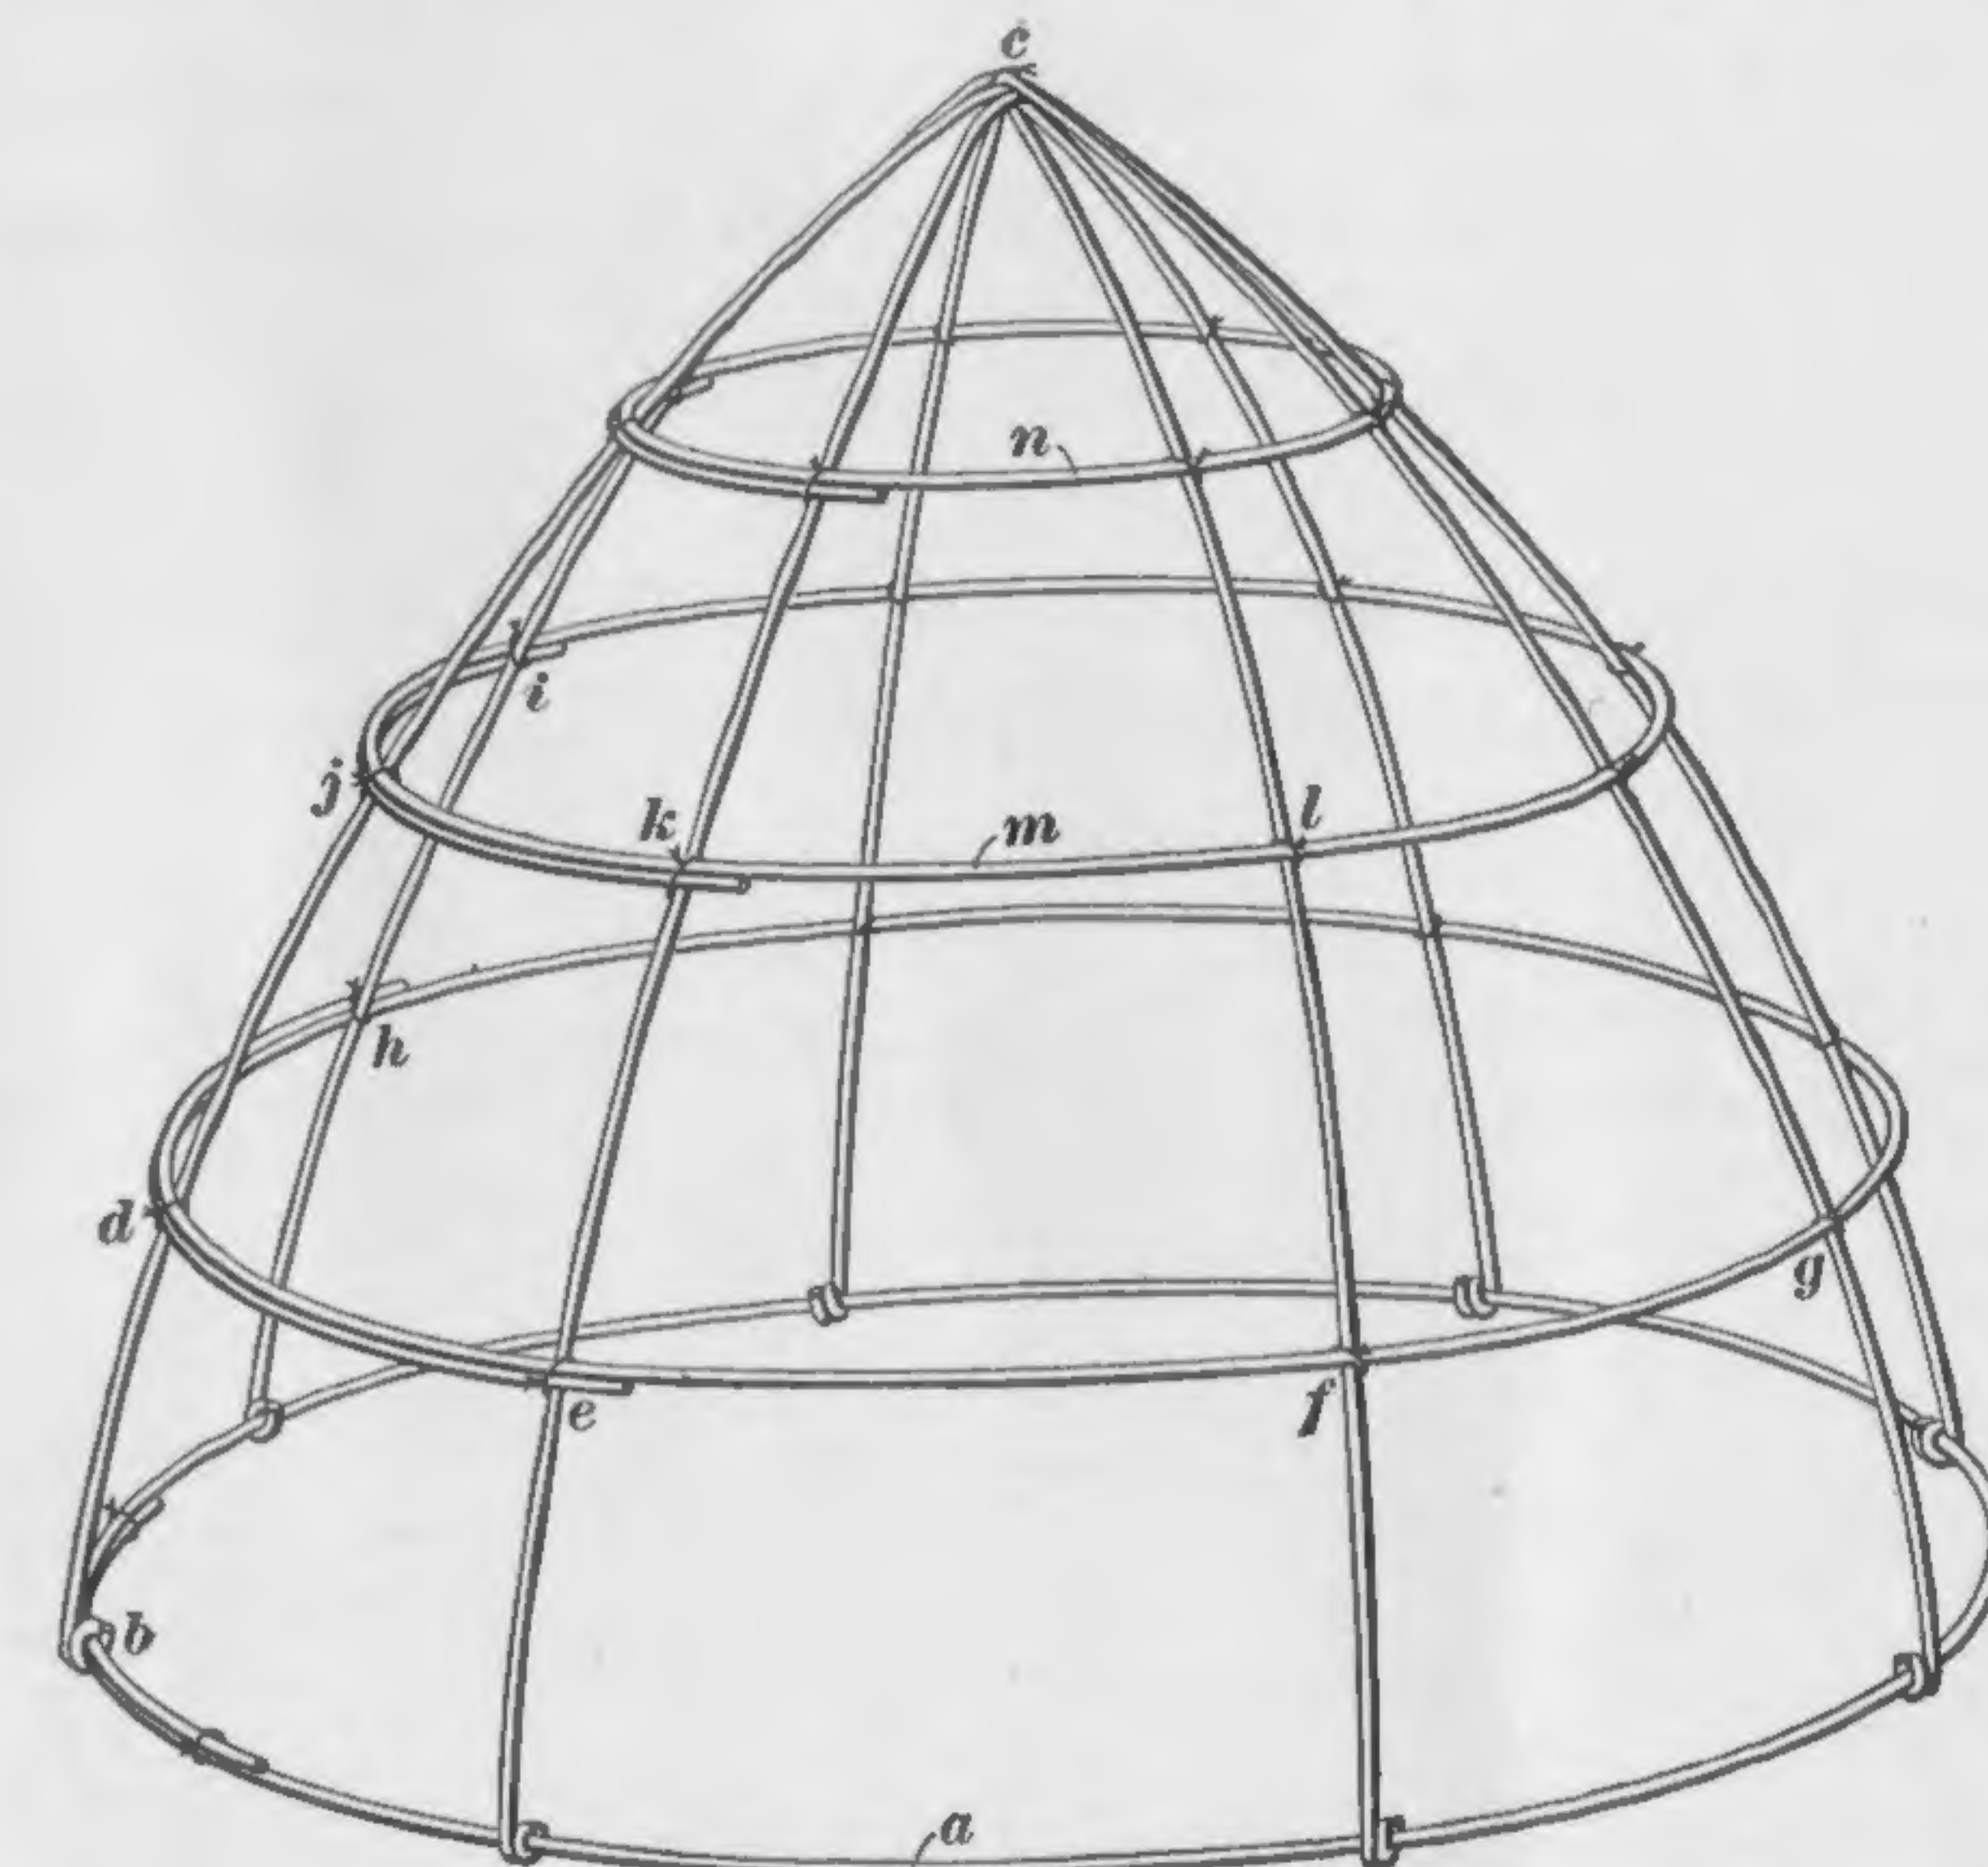

FIG. 25
41. The form of crown shown in Fig. 25 is known as the **acorn crown**, and the method of making it with a 24-in. head-size is as follows: Make the head-size wire *a* as for the preceding crowns, and mark it off into eight equal parts with a paper gauge, beginning at the middle point *b* of the overlapped ends. There are four support wires, and the distance from *b* to *c*, measured along the curve of the wire, is 7 in. Allowing 2 in. at the end of each half of a support wire for twisting around the head-size wire *a*, the length of each
42. As the distance from *b* to *c*, Fig. 25, is 7 in., three brace wires must be added in order to give sufficient strength to the frame. These three brace wires are equally spaced; therefore, take a strip of paper, cut off a length of $7 \div 4 = 1\frac{3}{4}$ in. as a gauge, and with it mark off the points *d*, *e*, *f*, *g*, etc., around to *h*, at a distance of $1\frac{3}{4}$ in. above the head-size wire *a*. Tie one end of a piece of brace wire loosely at *h*, stretch the wire around to *f*, and tie it there with a piece of tie wire. Tie it at the point *g* with tie wire, and continue around to *h*. Then remove the loose tie wire at *h* and tie *both* parts of the brace wire to the support wire *i*. At *d* tie both wires to the support wire, and stretch the brace wire to the point *e*. Cut it from the coil $\frac{1}{4}$ in.